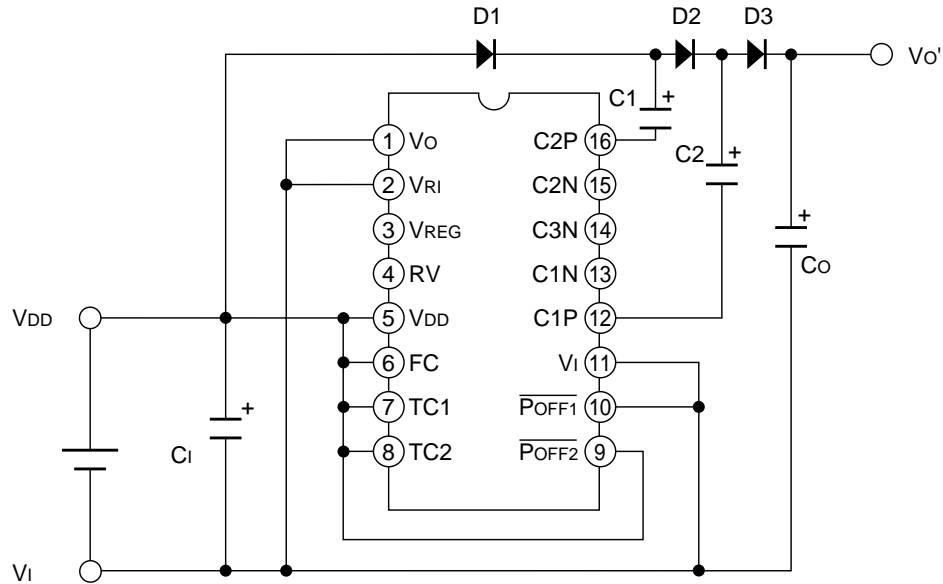

Figure 2.14 Wiring example of positive voltage conversion (3-time boosting)
The S1F76540 can also boost up a voltage to the positive potential using external diodes. In such case, however, the regulator function is unavailable. Figure 2.14
- ◇ Setup conditions of Figure 2.14
- To boost up a voltage two times, remove capacitor C1 and diode D1 of Figure 2.14, and connect the anode of diode D2 to the VDD pin.
- When diodes are used for voltage boosting, the characteristics of diodes directly affect on the voltage boosting characteristics. The forward voltage drop (VF) of diodes can reduce the booster output voltage. As the example of Figure 2.14 uses three diodes, the drop of “VF” voltage multiplied by three occurs. The booster output voltage is expressed by equation (5).